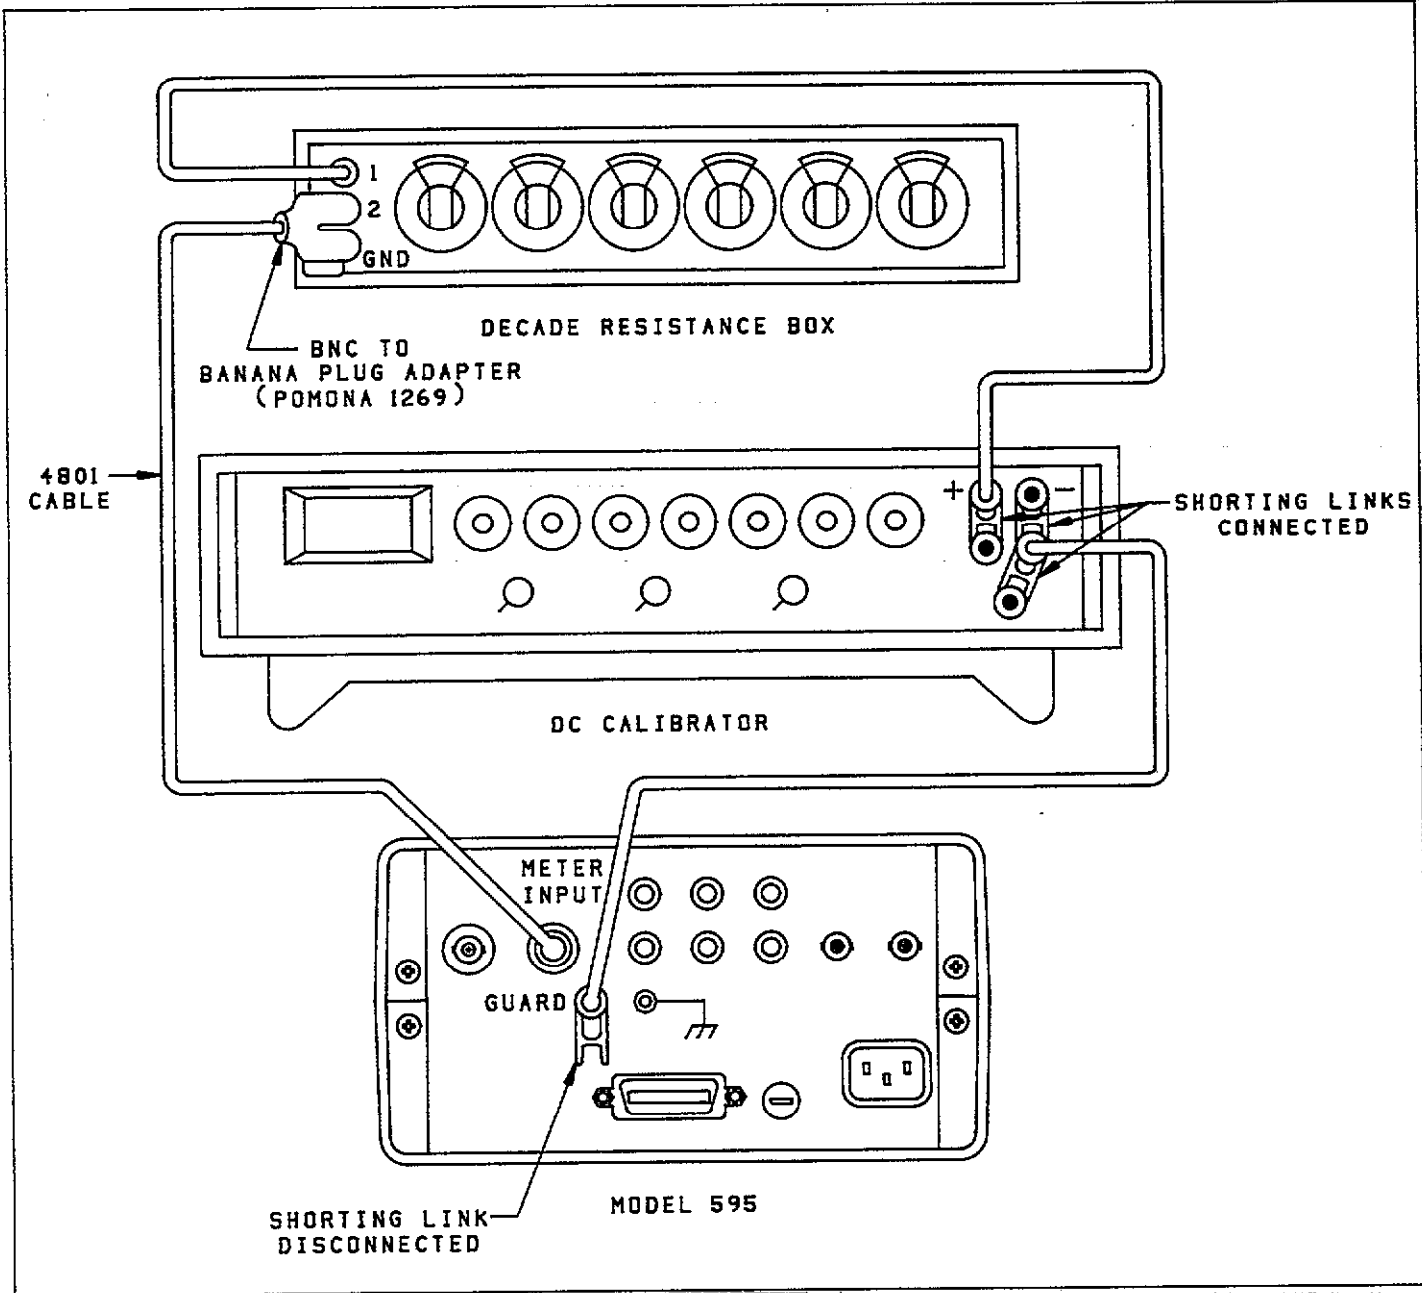

Figure 8-7. Current Calibration Setup ( $20\mu\text{A}$  to  $200\mu\text{A}$  Ranges)
- Disconnect the resistor/shield fixture from the instrument and connect the decade resistance box in its place, as shown in Figure 8-7.
2. Connect the current source to the input as shown in Figure 8-7. Set the decade resistance box to 100k $\Omega$  and set the calibrator to output 0V.